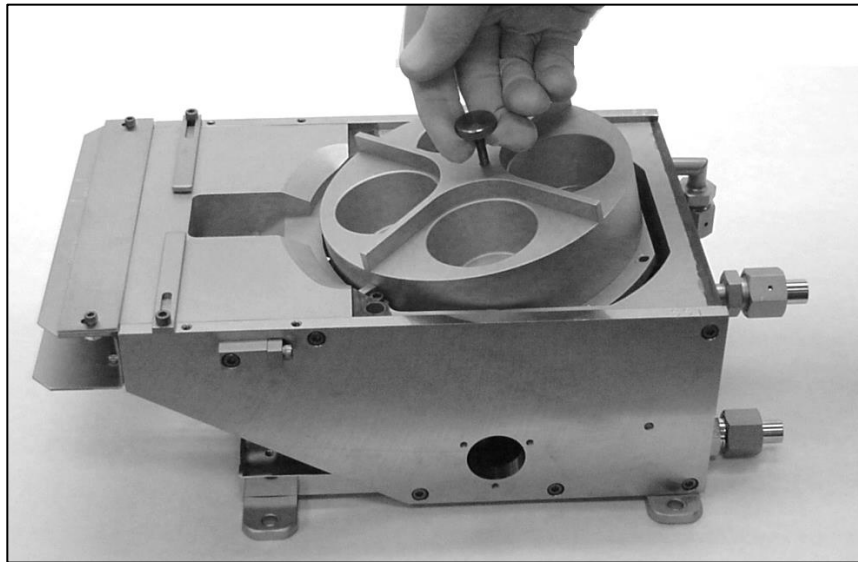

Figure 5-5. Removing the crucible from the source. Note angle of withdrawal.
- (c) Pull the crucible clear of the coil housing by angling it upward and backward at the same time, as shown in Figure 5-5. At this point, be very careful not to scrape the crucible's O-ring-sealing surface on the water baffle.
- (b) Angle the crucible into the position shown in Figure 5-5. Next, lower its rear end so that its bottom surface is horizontal; then lower the crucible straight down onto the O-ring. As you perform this step, take great care to avoid scraping the underside of the crucible's O-ring-sealing surface against the water baffle.
Step 6: Remove the emitter assembly, if you have not already done so. First remove the knurled nut that secures the emitter to the source baseplate, as shown in Figure 5-5. Then remove the emitter.